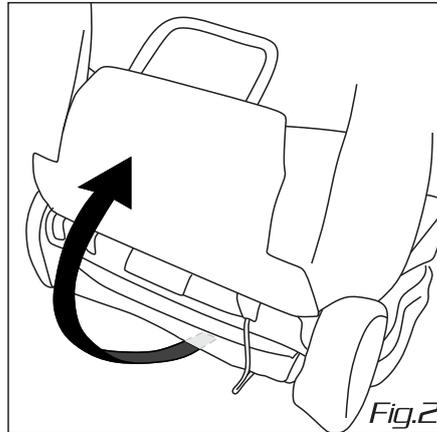

Fig.2
2. Release the flap from behind and beneath the front seats if applicable (Fig.2)